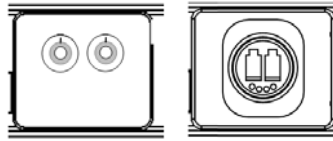

Fig. 3-19: MPS "dry" fiber connector options
- **5: "Dry" Fiber Optic Connection to CopperHead Base Station:** this removable plate can be equipped with two ST connectors or a "dry" OpticalCON connector (see Figure 3-19).